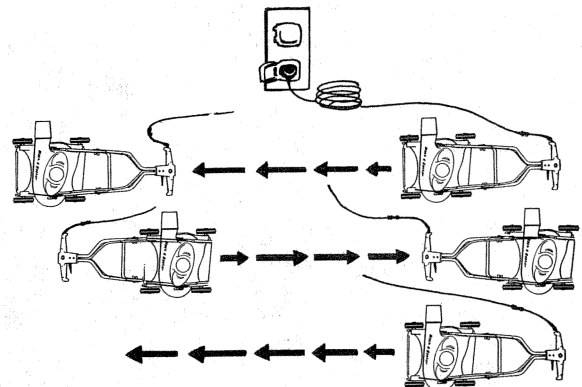

FIGURE 15
3. Begin mowing in the area closest to the outlet and mow in a back and forth manner (Figure 15). When you reach the edge of the lawn, do not turn the mower around. Instead, pull the safety latch lever up (Figure 16) and move the handle up and over the mower, as you walk around the side of the mower opposite the discharge opening. After the latch is engaged, you can now push the mower in the opposite direction (Figure 17).